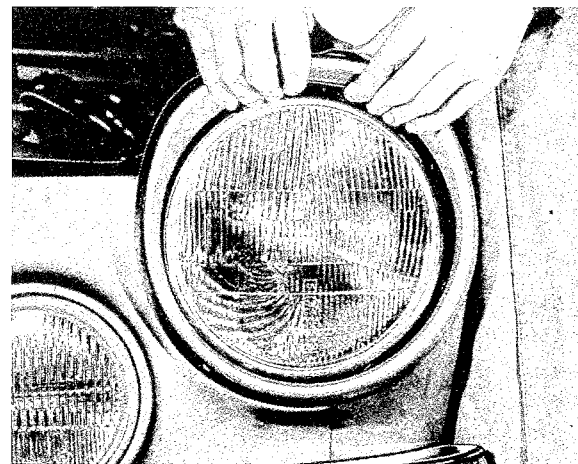

Fig. 3-89. Removing outer rim
3. Remove the outer rim by pulling it upwards-forwards, see Fig. 3-89.